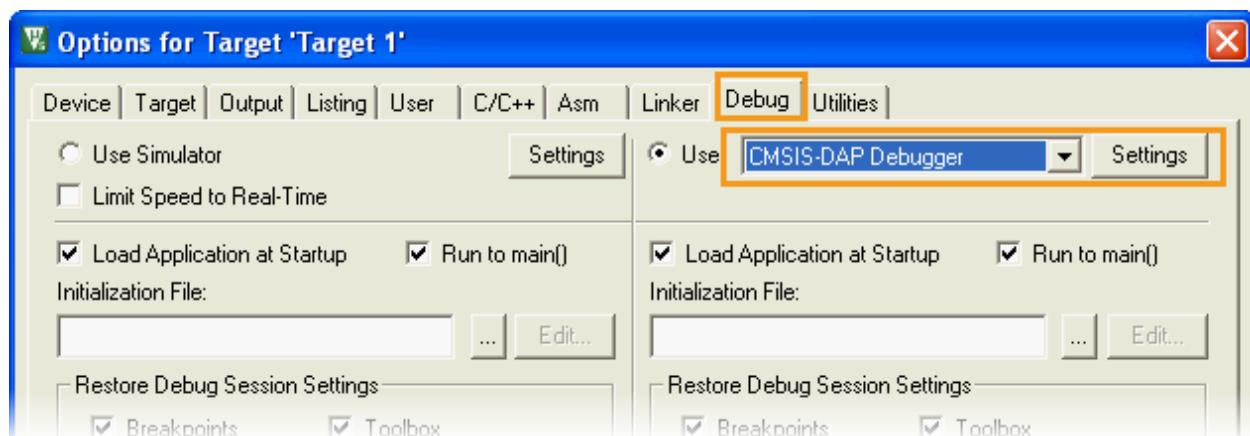

Figure 59. Configure the debug settings
- 6) Navigate to **Debug** tab in the **Options for Target** to select the **CMSIS-DAP Debugger**, as shown in Figure 59.